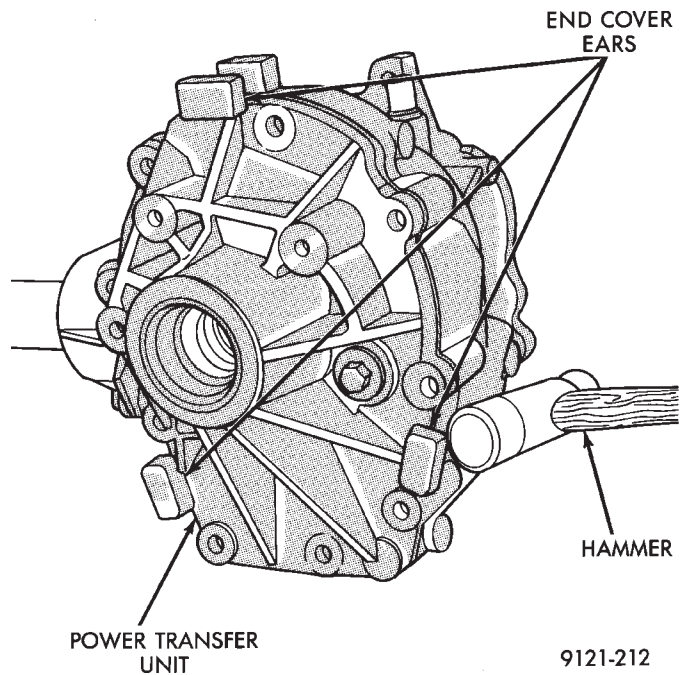

Fig. 2 End Cover Removal
- (2) Gently tap on end cover ears to separate cover from case (Fig. 2).